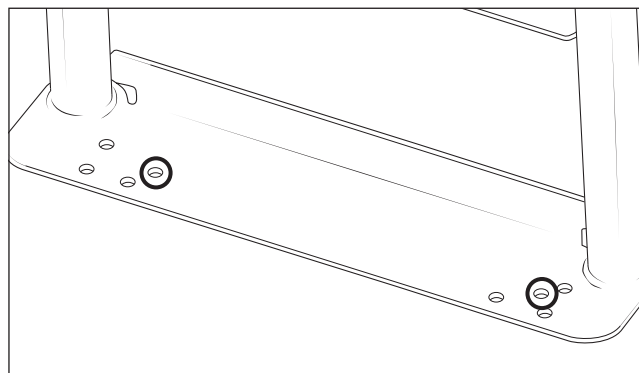
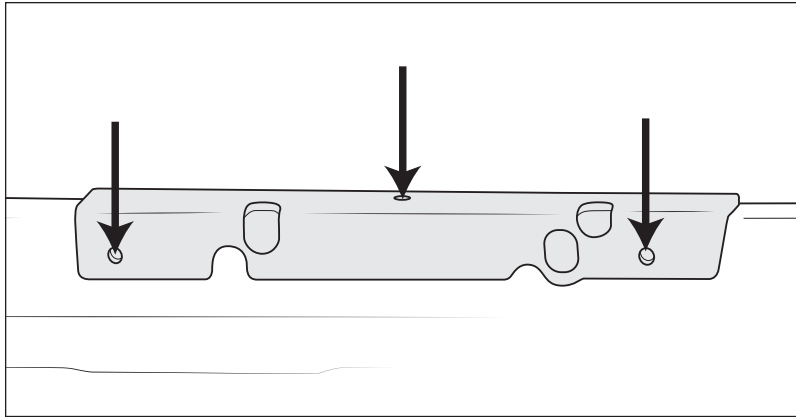

Figure 5
Figure 6
4. Mark two hole locations on the bed floor (fig. 5) and three hole locations on the Bulkhead Bracket (fig. 6).